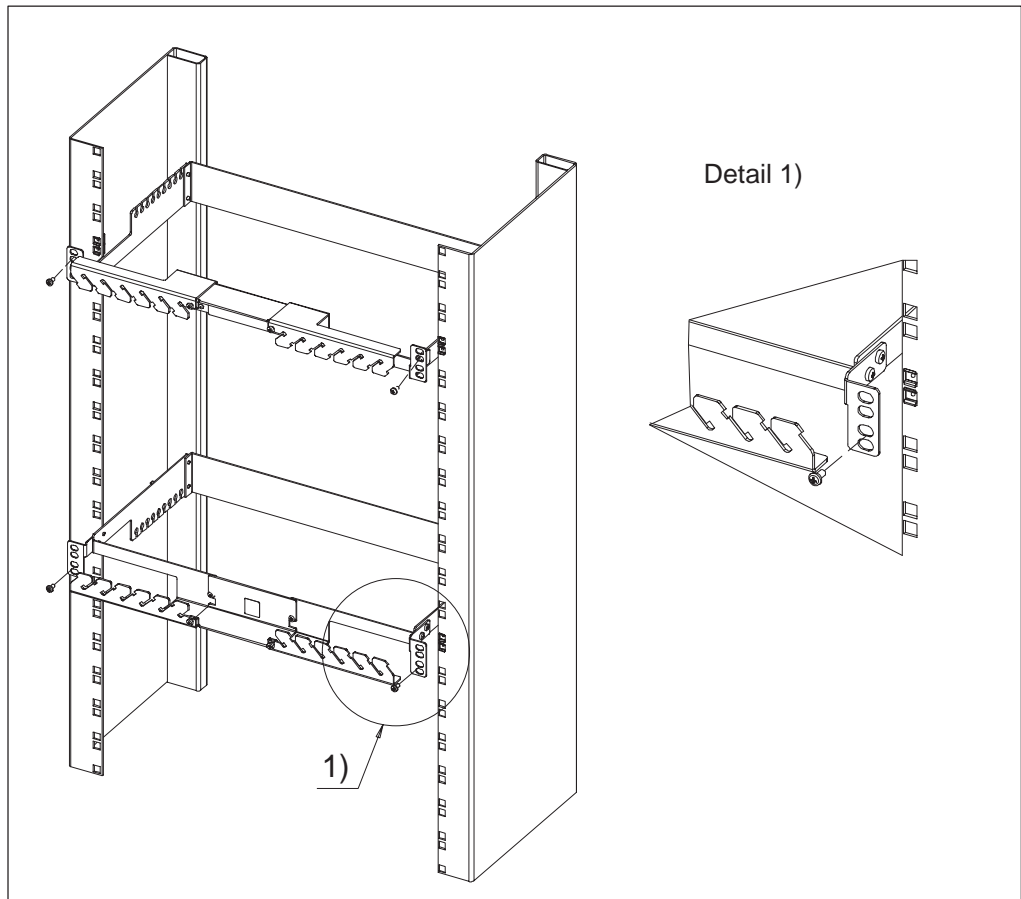

Figure 36 Mounting cable trays to 19-inch rack
- To mount the cable trays to a 19-inch rack (see Figure 36):